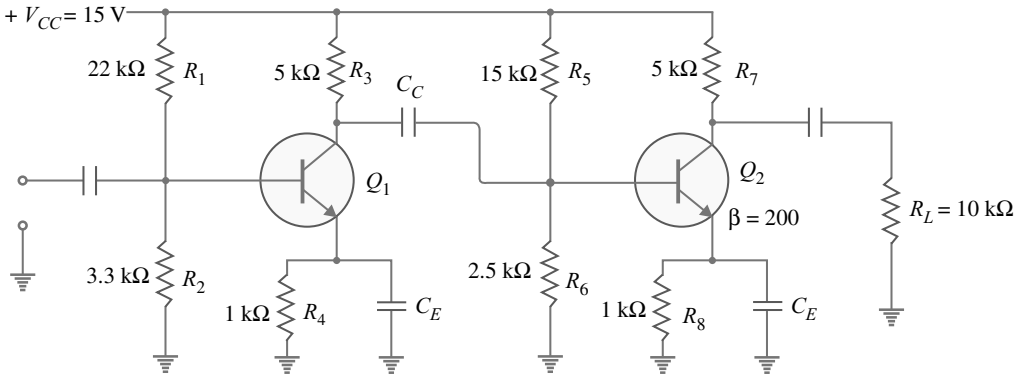

Fig. 9.23
**Example 9.23.** Fig. 9.23 shows a 2-stage RC coupled amplifier. Find the voltage gain of (i) first stage (ii) second stage and (iii) overall voltage gain.
**Example 9.24.** In the above example (See Fig. 9.23), the emitter bypass capacitor is open in the first stage. What will happen to (i) the d.c. voltages of the first stage (ii) the a.c. input voltage of the second stage (iii) the final output voltage?